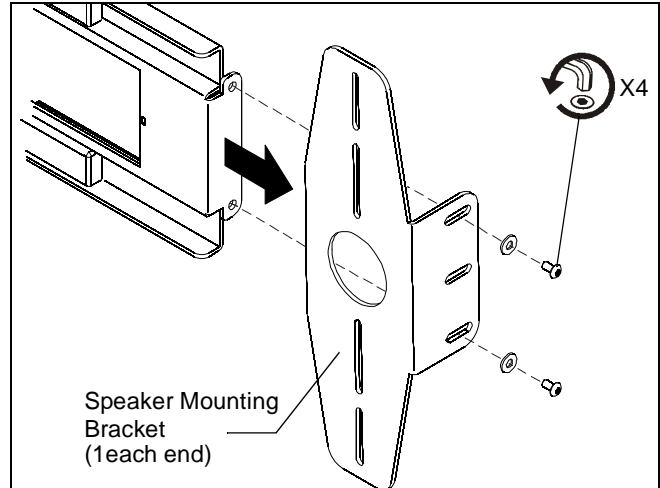

Figure 6
1. Remove speaker mounting brackets from speaker mounting rails by removing four button head cap screws and four washers. (See Figure 6)